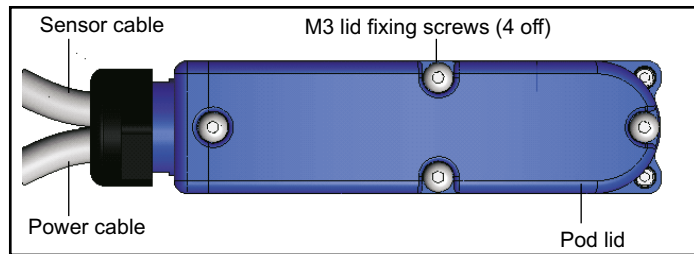

Figure 3.5
- To gain access to the cable termination connectors inside the pod, unscrew the four M3 fixing screws, see Figure 3.5.